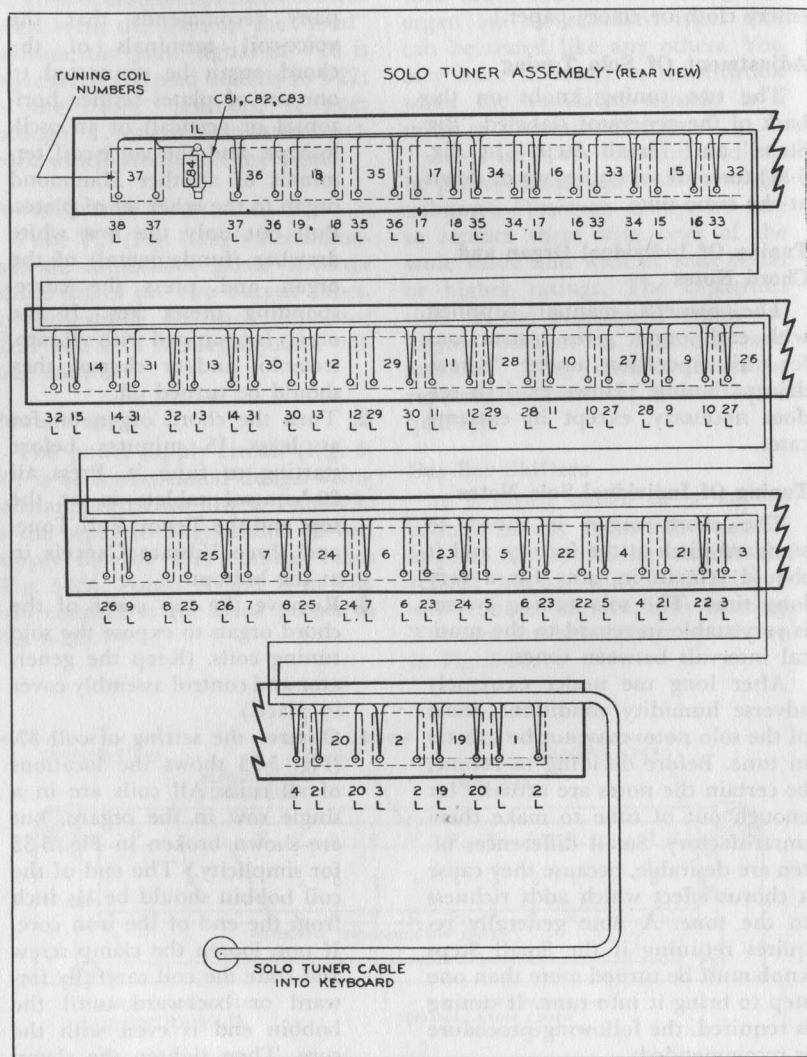

Fig. 5-33. Location of the solo tuning coils.
4. Observe the setting of coil 37. (Fig. 5-33 shows the locations of all coils. All coils are in a single row in the organs, but are shown broken in Fig. 5-33 for simplicity.) The end of the coil bobbin should be $\frac{1}{32}$ inch from the end of the iron core. If not, loosen the clamp screw and slide the coil carefully forward or backward until the bobbin end is even with the core. Then tighten the clamp screw.